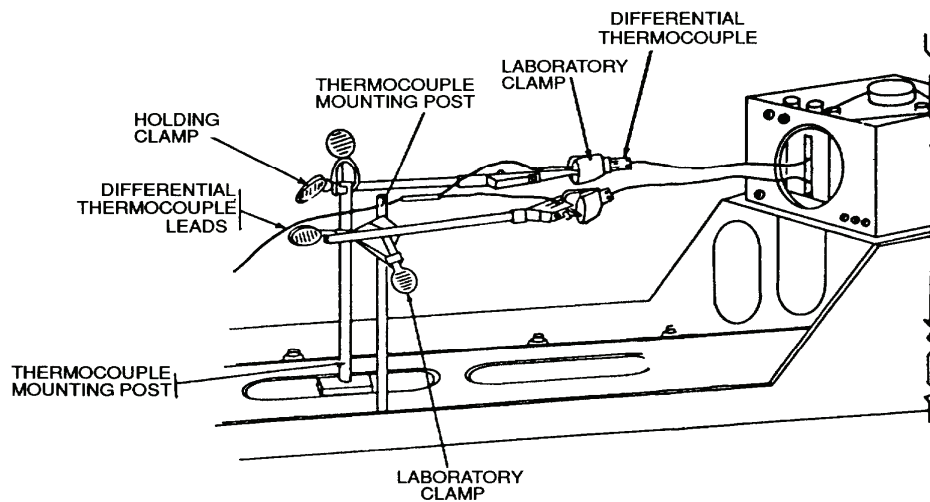
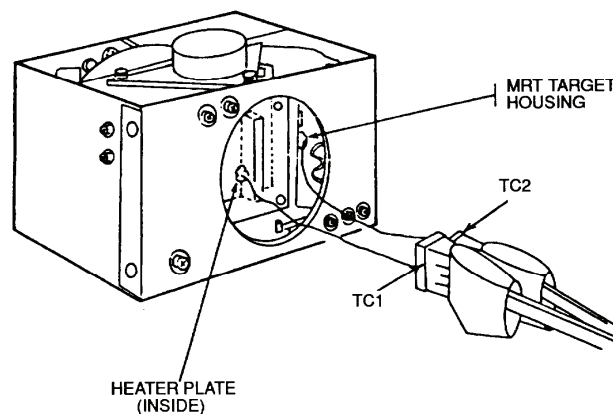

Figure 2. Equipment setup.
Figure 3. Temperature controller - heater plate.
- c. Connect equipment as shown in figure 2 and as described in (1) and (2) below:
- (1) Install thermocouple mounting post (pair) on base of TI (approximately center of second slot pair from exit port).
- (2) Clamp differential thermocouple set (pair) in laboratory clamps and install on thermocouple mounting posts, using mounting post clamps.
- d. Using cotton tip applicator wood end, daub a small amount of thermally conductive paste on the extreme bottom of heater plate (fig. 3) on front of temperature controller.
- e. Place tip of thermocouple TC1 (fig. 3) against bottom of heater plate, in the thermally conductive paste.
g. Increase tension on thermocouple TC1 (fig. 3) to produce a moderate bow in thermocouple wire by sliding laboratory clamp forward (toward temperature controller) in mounting post clamp; then tighten mounting post clamp.
h. If necessary, physically position thermocouple TC1 on heater plate to the position shown in figure 3.
i. Daub a small amount of thermally conductive paste on side of brass housing of **MRT** target housing (fig. 3) (on temperature controller) and place tip of thermocouple TC2 (fig. 3) in the thermally conductive paste.
j. Repeat technique of f through h above for thermocouple TC2 (fig. 3).
k. Place leads from differential thermocouple (fig. 2) on base of TI near exit port.